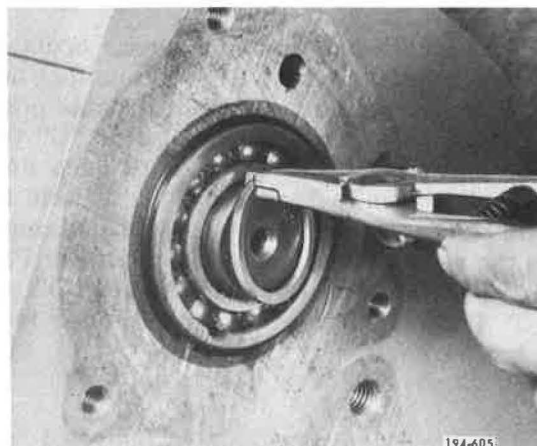

Figure 5-281. Removing Snap Ring
13. Remove rear countershaft rear bearing retaining snap ring, using snap ring pliers J-25445 or equivalent. See Figure 5-281.